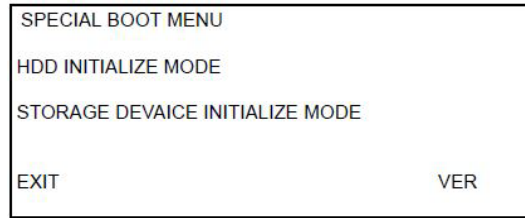

Figure 1 Special boot menu
2. Simultaneously press then hold down the **Home** and **Power** buttons until the device powers On and SPECIAL BOOT MENU appears. Figure 1.